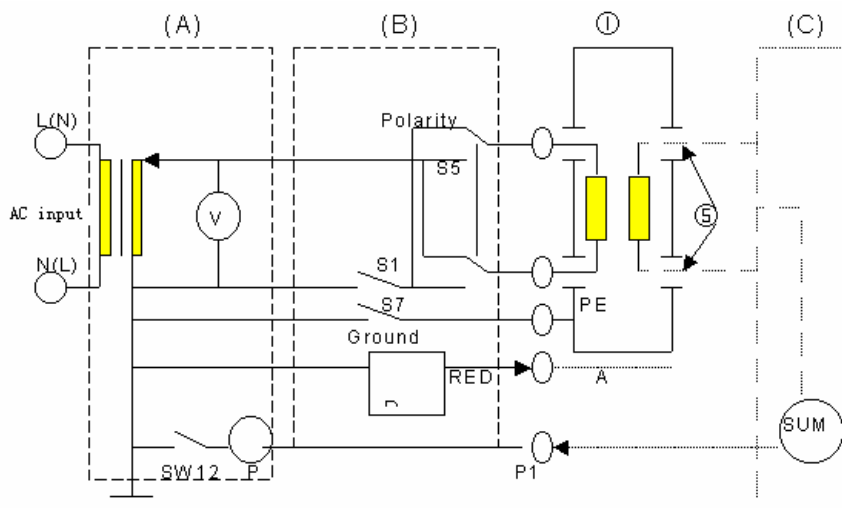

Figure 3-2 Connection graph for leakage current testing between the shell and the earth
2.2.2.1 Connection graph for testing is shown in figure 3-2: